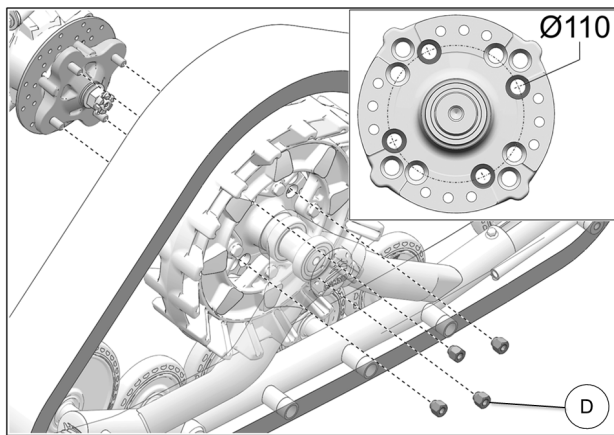

Fig. 11
10. Secure undercarriage to rear hub using the provided M10 lug nuts (D). Use bolt circle Ø110 mm. See Fig. 11